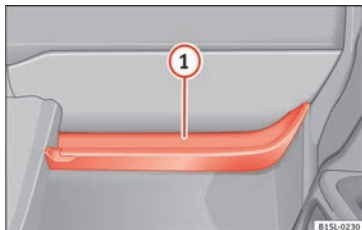

Fig. 125 Open storage compartment on the passenger side
In the open glove compartment there is a hook for bags » **Fig. 125** ①.